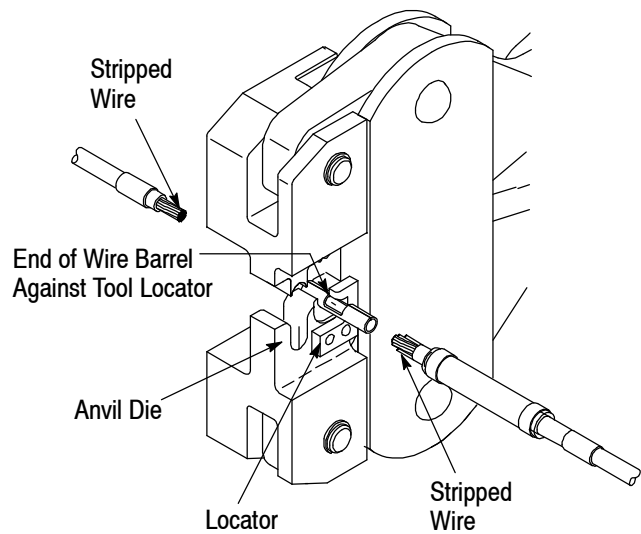

Figure 3
2. Position the terminal or splice onto the anvil die so that the end of the wire barrel rests against the locator. See Figure 3.
4. Insert the stripped end of the wire into the wire barrel until the wire bottoms. Refer to Figure 3.